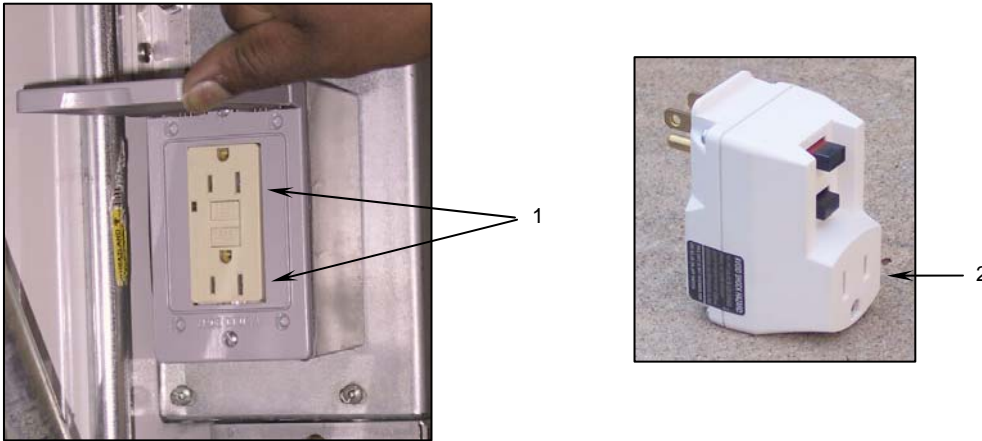

Figure 7. Ground Fault Circuit Interrupter (GFCI).
Use only a GFCI outlet as the power source. The power source for the FSC is typically the GFCI receptacle on the 2 kW generator or the GFCI receptacle (**Figure 7, Item 1**) in the generator room of the Containerized Kitchen (CK). If a GFCI outlet is not available, use the GFCI (**Figure 7, Item 2**) provided with the FSC. Failure to observe this warning may result in serious injuring or death from electrical malfunction.